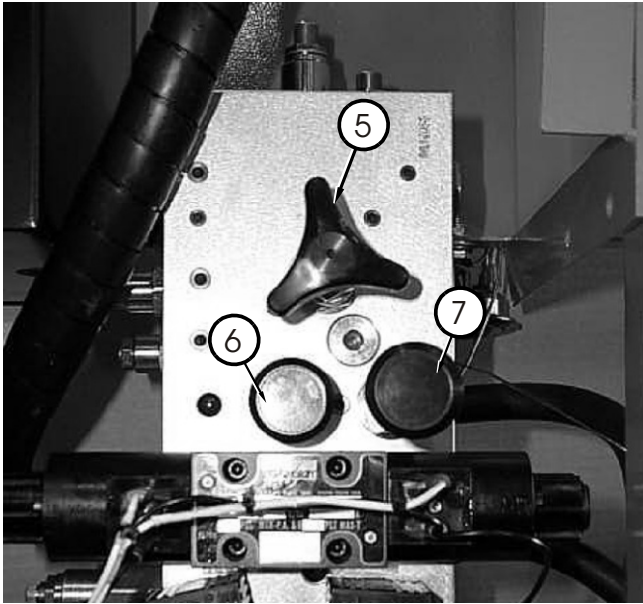

Figure 9.9
3. Inside the hydraulic compartment, open the free-wheeling valve **5** by turning counterclockwise until knob stops.(see Figure 9.9).
4. To release the brakes, pump the hand pump **7** 5 - 10 times. (see Figure 9.9).
5. Once the unit has been safely pushed / towed pull the re-set knob **6** to re-apply the brakes (see Figure 9.9).